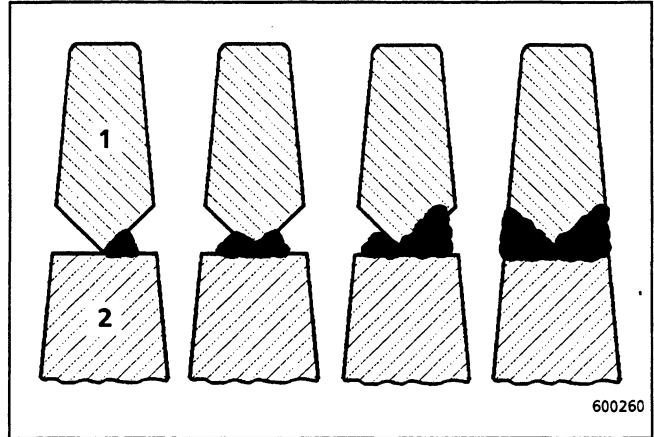

Fig. 39
9.9.2 Welding sequence (fig. 39) and filler metals